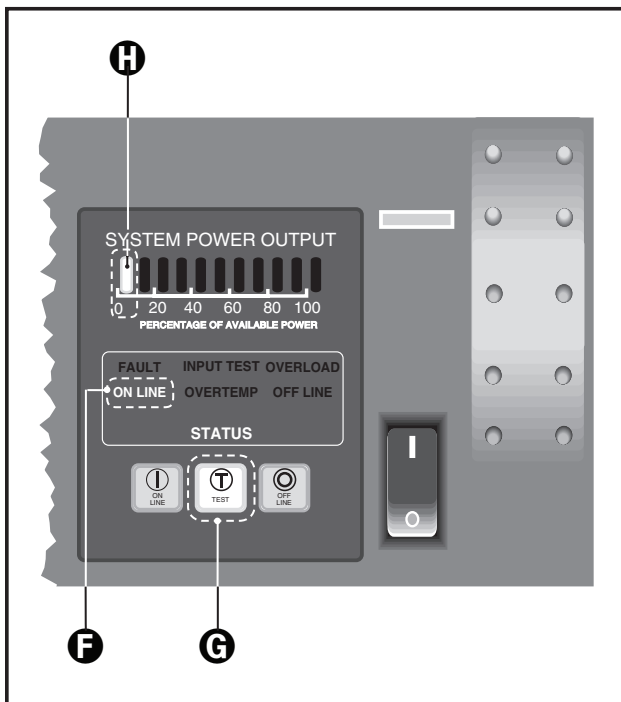

Figure 7–2 System Test Controls and Indicators
2. Position the probe so that its horn is not in contact with anything. Do not hold the probe if you are not accustomed to ultrasonic welding. The initial ultrasonic sensation may surprise you and cause you to drop the probe. Momentarily press the generator control TEST key (G in Figure 7–2). The following conditions should occur.
3. One green segment of the System Power Output bar display will light up indicating normal operation (H in Figure 7–2.)